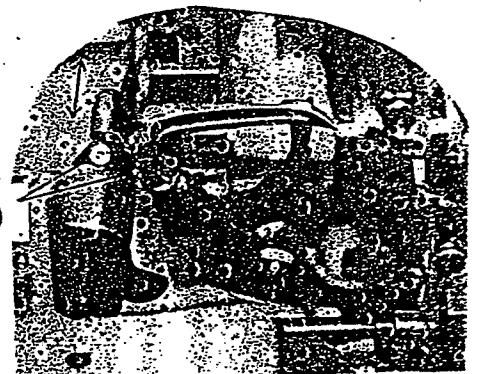

Fig.3
NOTE : If adjustment front or back is necessary, loosen two screw (A) Fig.3, and move (A) spreader as required. Re-tighten two screws after adjustment.